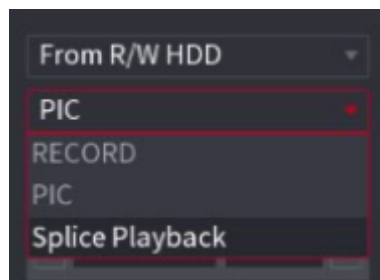

Figure 5-103
Step 2 In the **Search Type** list, select **Splice Playback**; In the Split Mode list, select **4**, **9**, or **16**. See Figure 5-103.